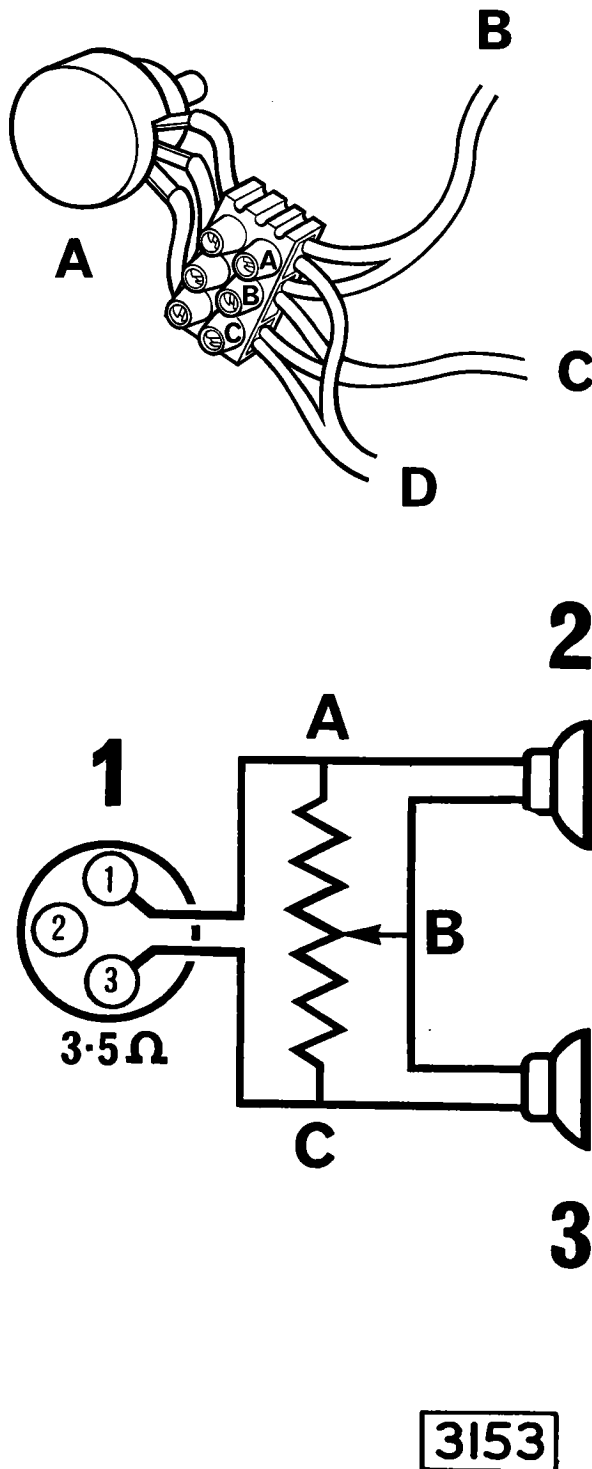

Fig. 83. Circuit diagram.
31. Bare other ends of unterminated lead and connect to points "B" and "C" on terminal block of the balance control assembly—See Fig. 83.
32. Connect the loudspeaker lead from front loudspeaker to points "A" and "B" on the terminal block of balance control assembly—See Fig. 83.
33. Connect loudspeaker lead from receiver to points A and C on terminal block of balance control assembly—See Fig. 83.